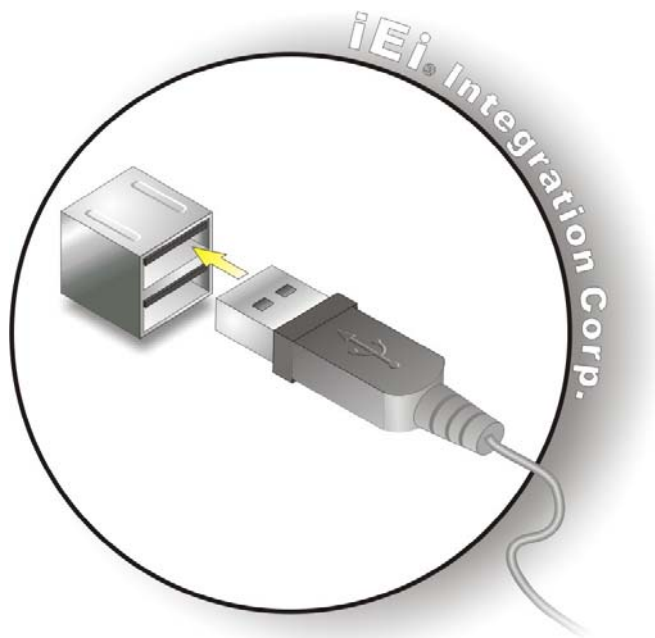

Figure 4-17: USB Connector
Step 2: Insert a USB Series "A" plug. Insert the USB Series "A" plug of a device into the USB Series "A" receptacle on the external peripheral interface. See Figure 4-17.